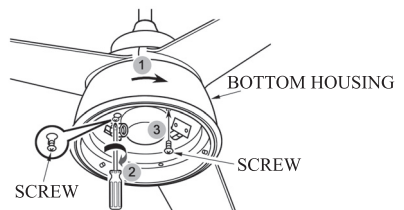

FIG.17
3. Place the light fixture into the light kit plate match with 2 loosen screws. Rotate the light fixture in a counter clockwise (to the right direction) until it is held. And tighten the screws. (see Fig.17)